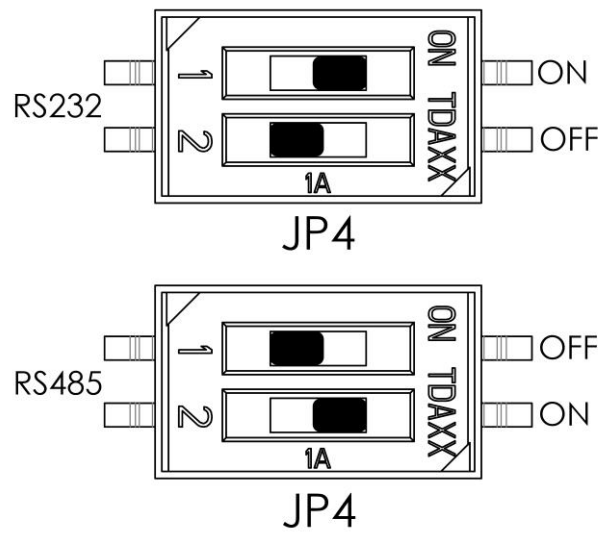

Figure 5
- Using a tool with a fine point such as a dental pick, slide the two switches into the proper position of the port selected. See Figure 5 for the switch positions.